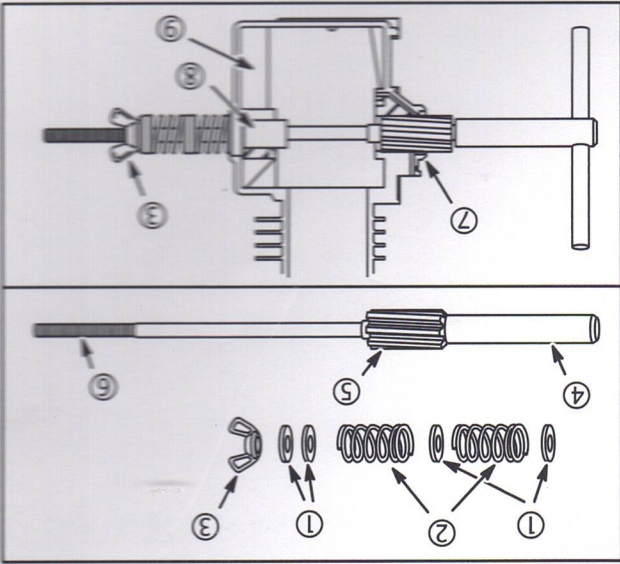

Fig. 6
**NOTE:** Pilot Tool #19096 (4), can be modified by welding a 3/8" diameter, 4-1/2" long threaded extension (6) to the end of the tool.
If the tool is modified, place pilot guide bushing flange (8) on the outside of crankcase, Fig. 6.